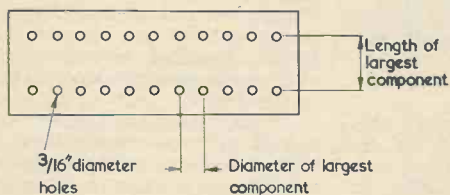

Fig. 1. Drilling the tagboard
2. As shown in Fig. 1, drill two rows of holes with a $\frac{3}{16}$ in drill, the rows being spaced from each other by the length of the largest component to be mounted on the tagboard, and the distance between the holes in each row being equal to the diameter of the largest component. Make sure the holes are clean.